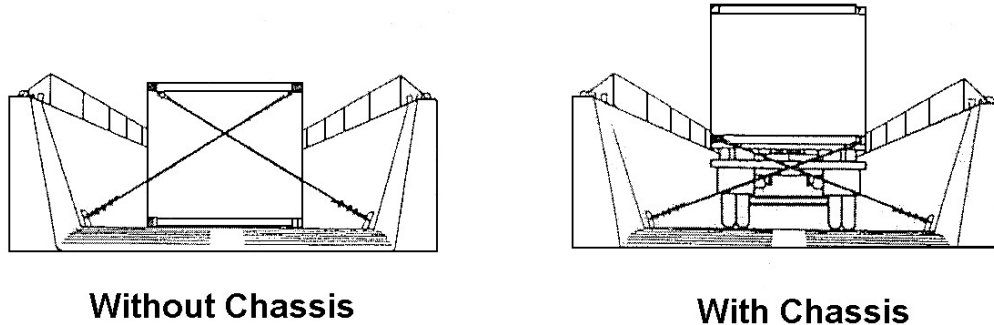
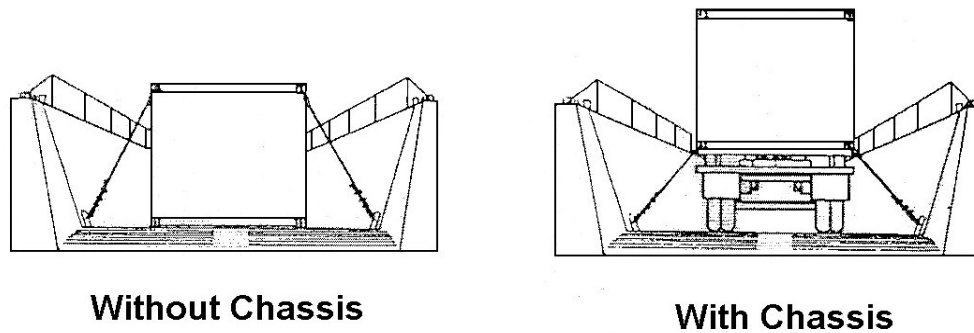

Figure 3-180
Figure 3-181
1. Direct personnel lashing containers with chassis (see Figure 3-180 and Figure 3-181).
2. Direct personnel lashing containers without chassis (see Figure 3-180 and Figure 3-181).